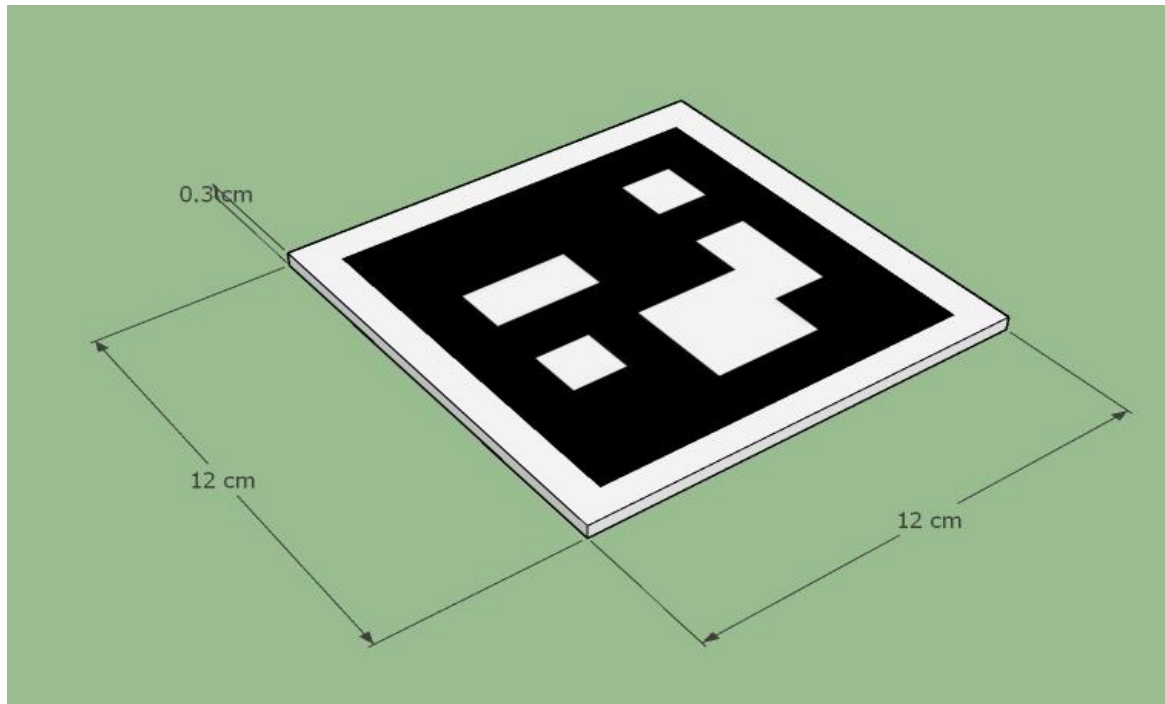

Figure 8: ArUco marker construction for CB and Truck
- Paste the ArUco marker on the sunboard using glue or double sided tape. The ArUco marker must be pasted on sunboard should be as shown in Figure 8.